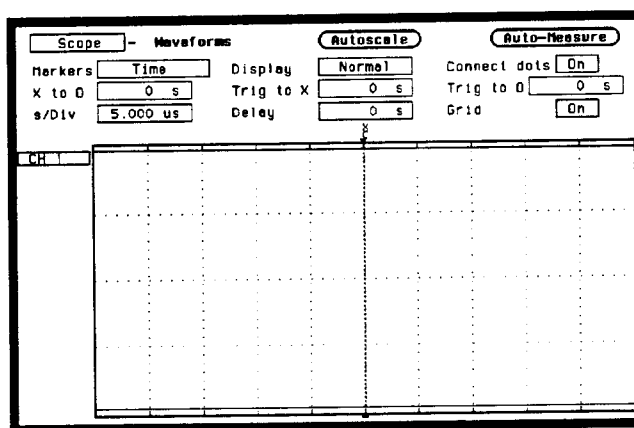

Figure 3-56. Waveforms Display Menu Configuration
- Press **DISPLAY** and set **Markers** to **Time**, **Display** to **Normal**, **Connect dots** **On**, and **Grid** **On** as in figure 3-56.